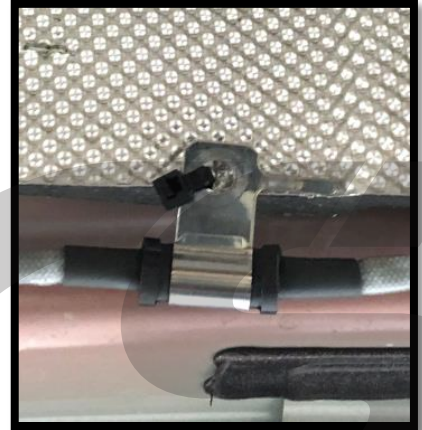
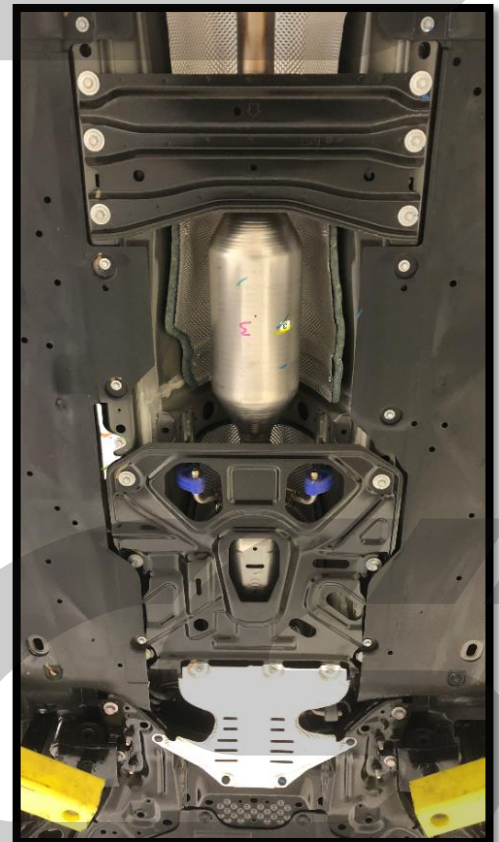

Figure 10b
Figure 10c
d) Position the rearward chassis brace in the proper location. It has one tab on each side that must be inserted into the frame rails before attaching with bolts. **Figure 10b** shows the brace installed for reference.
e) Position the forward chassis brace in the proper location. It fits above the OEM under tray and must be slid into place from the rear. It also has one tab on each side that must be inserted into the frame rails before attaching with bolts. **Figure 10b** shows the brace installed for reference.
f) Secure the chassis bracing with the twelve (12) 12mm bolts removed earlier. Tighten to 15-17 ft-lbs.
g) Secure the OEM under tray with the two (2) 10mm bolts removed earlier. Tighten to 10-14 ft-lbs.
h) Reattach the silver underbody shield using the four (4) push clips & three (3) 10mm bolts removed earlier. **Figure 10c** shows the shield installed for reference. Tighten the 10mm bolts to 10-14 ft-lbs.